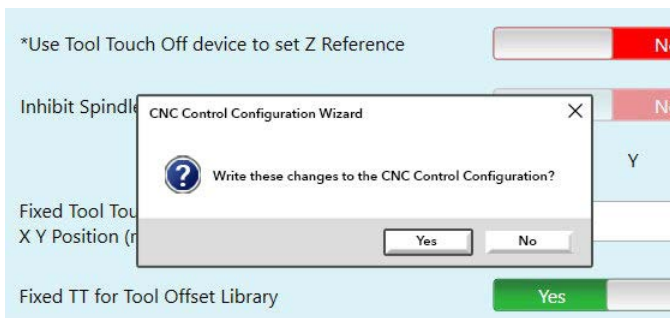

FIGURE 16
11. Write these changes to the CNC control Configurations? Yes (see Figure 16).